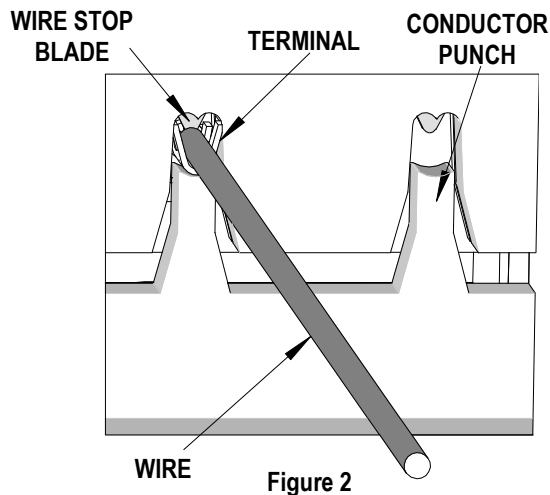

Figure 2
5. While holding the locator against the hand tool insert the proper wire size into the terminal. See Figure 2.